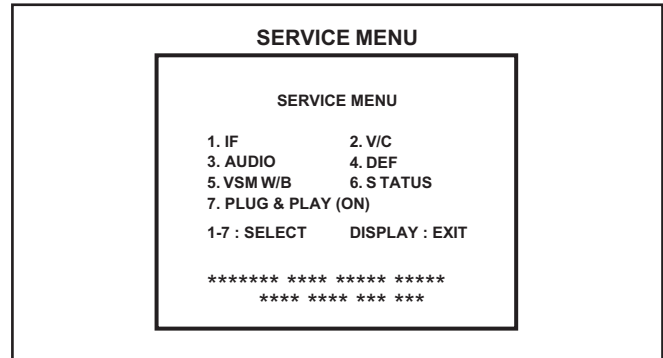

Fig.1
- (1) Press the [DISPLAY] key and the [PICTURE MODE] key of the REMOTE CONTROL UNIT simultaneously.
- (2) The SERVICE MODE screen of Fig. 1 will be displayed.
Verify what to set in the SERVICE MODE, and set whatever is necessary (Fig.1).